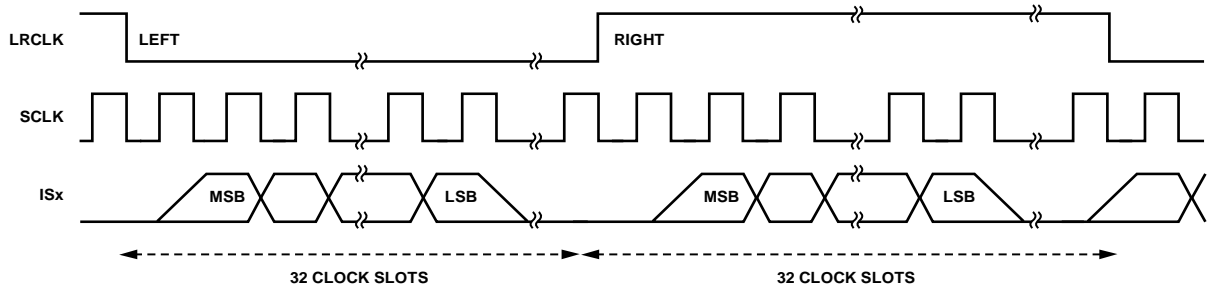
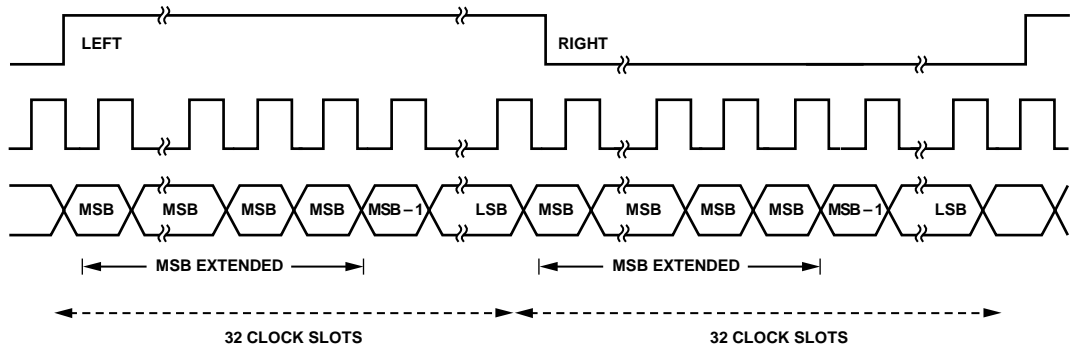
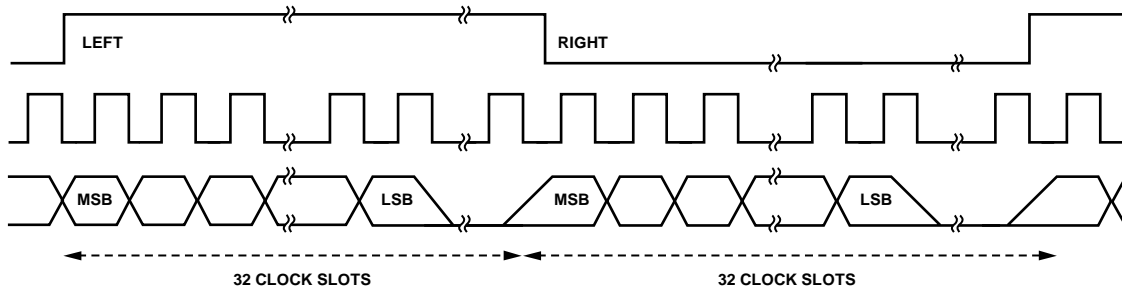

Figure 17. Timing Audio Data Output in I²S Mode
Figure 18. Timing Audio Data Output in Right Justified Mode
Figure 19. Timing Audio Data Output in Left Justified Mode
- Linear L-PCM audio data is output on the audio output pins if the part received audio sample packets with L-PCM encoded audio data. Each audio output pin carries stereo data that can be output in I²S, right justified, or left justified mode (see Figure 17, Figure 18, and Figure 19). The I2SOUTMODE[1:0] control must be set to 0x0, 0x01, or 0x2 to output I²S, right justified, and left justified respectively on the audio output pins.
- I2SOUTMODE must be set to 0x0, 0x01, or 0x2 for I²S, right justified, and left justified format, respectively (see Figure 17, Figure 18, and Figure 19).
- OVR_MUX_HBR is set to 1, MUX_HBR_OUT is set to 0, and I2SOUTMODE[1:0] is set to 0x0 for an I²S mode binary stream (see Figure 17).
- OVR_MUX_HBR is set to 1, MUX_HBR_OUT is set to 0, and I2SOUTMODE[1:0] is set to 0x1 for a right justified stream (see Figure 18).
- OVR_MUX_HBR is set to 1, MUX_HBR_OUT is set to 0, and I2SOUTMODE[1:0] is set to 0x2 for a left justified stream (see Figure 19).